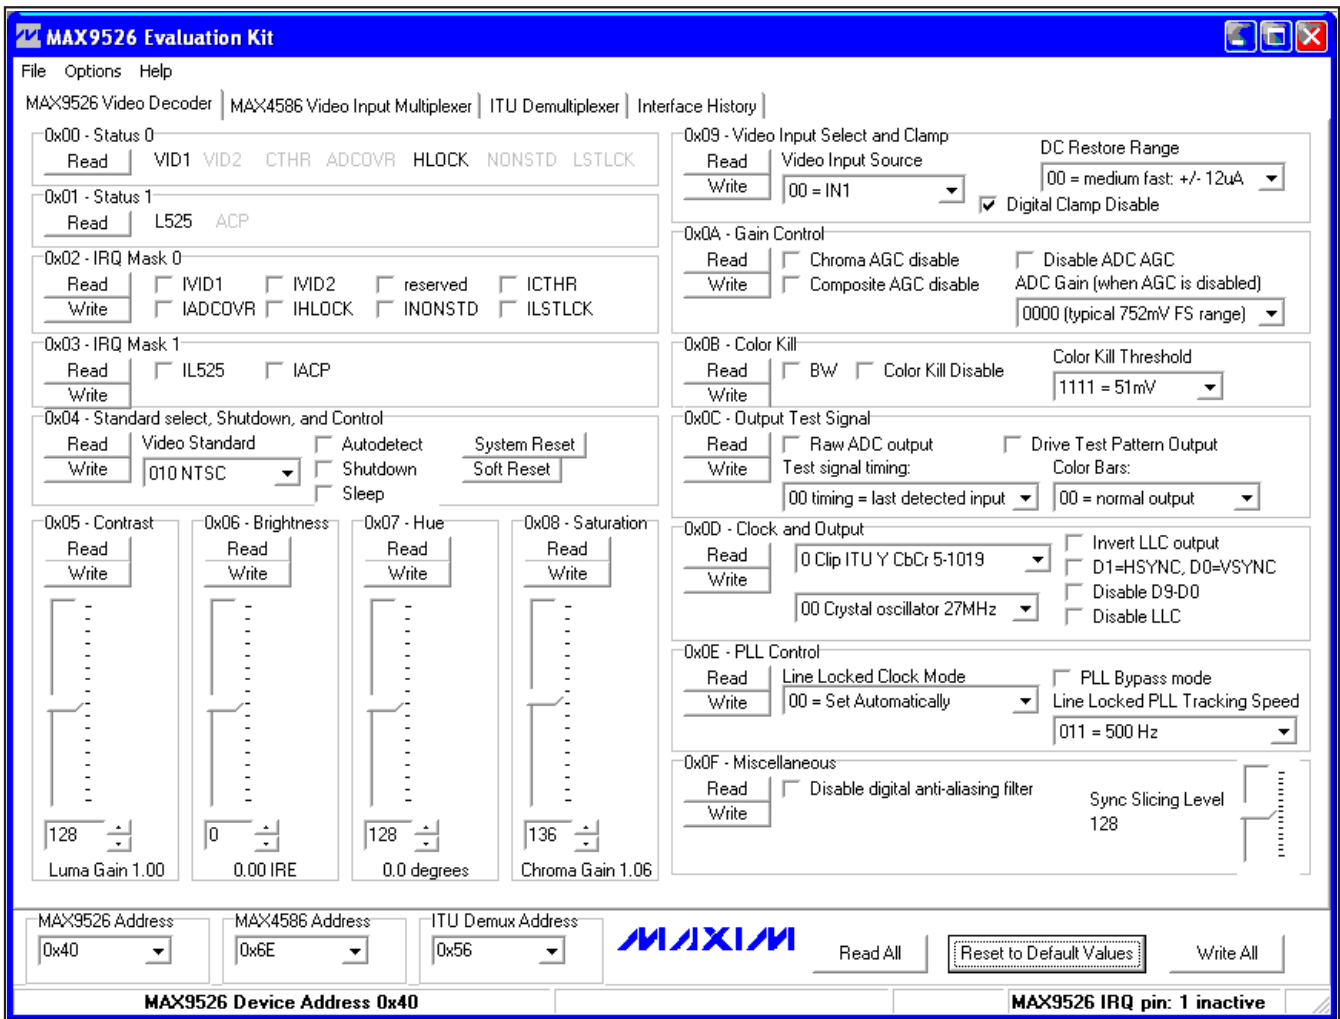

Figure 1. MAX9526 EV Kit Software Main Window
- 12) Start the MAX9526 EV kit software by opening its icon in the **Start | Programs** menu, then press the **Reset to Default Values** button. The EV kit software main window appears, as shown in Figure 1.
Drop-down lists select the I2C device address for MAX9526, MAX4586, and ADV7176A. The **ITU Demux Address** drop-down list includes both ADV7175A and ADV7176A device addresses. Each of these address selection drop-down lists include an option to search known addresses for each corresponding device (see Figure 1).